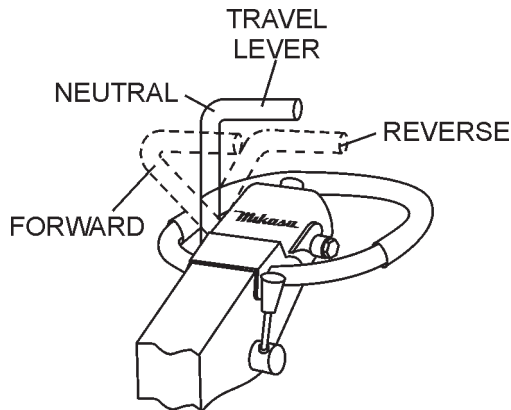

Figure 19. Travel Lever
3. To make the compactor move in the forward direction push the travel lever ( Figure 19) forward.
4. To make the compactor move in the reverse direction pull the travel lever ( Figure 19) backwards.